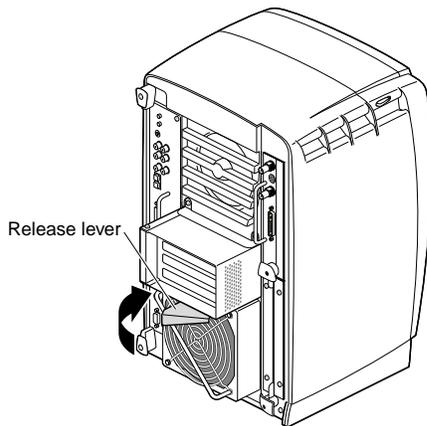

Figure 4-50 Closing the Release Lever
6. Close the release lever by pushing it to the left until it is parallel with the PCI module, as shown in Figure 4-50.